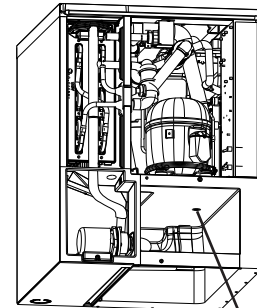

Fig. 7a Bin Control Lens
b) As water begins to fill the water tank (1-min. fill), place an object 5" to 7" (127 to 178 mm) away from the UBC lens. See Fig. 7a.